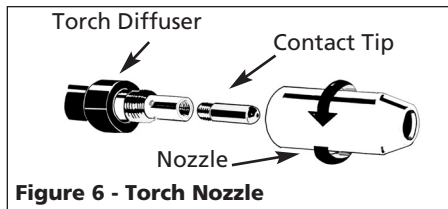

Figure 6 - Torch Nozzle
- b. Wire matches contact tip in end of gun. (See Fig. 6).
7. Remove nozzle by turning counterclockwise, then unscrew contact tip from end of welding torch (See Figure 6). Plug welder into a proper power supply receptacle.
9. Carefully slip contact tip over wire and screw tip into torch end. Install nozzle by turning clockwise (See Figure 6). Cut wire off approximately 1/4 inch from nozzle end.